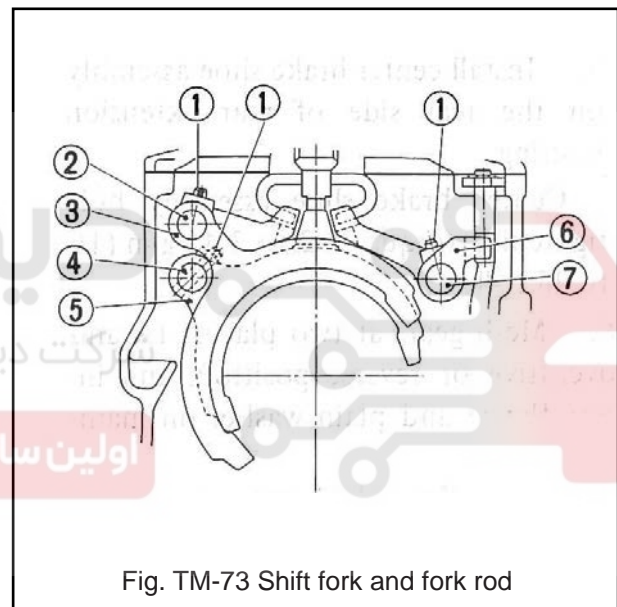

Fig. TM-73 Shift fork and fork rod
(6) To connect shift forks and shift bracket to fork rods, drive retaining pins into them. See figure TM-73.